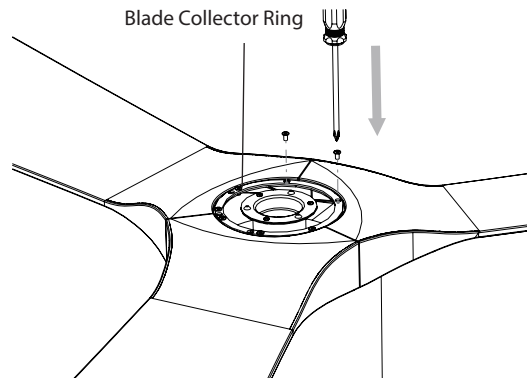

FIGURE 7
3. Secure the bottom of the blades together using the provided blade collector ring and hardware (Fig. 7).